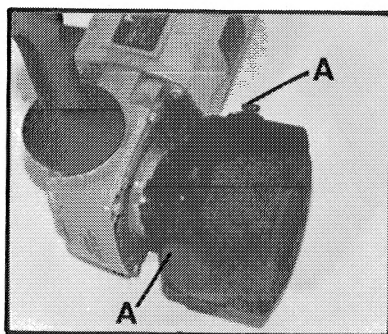

Fig. 9
5. Position the guard so that flying chips or pieces of wheel that might accidentally break will be deflected away from the operator. Note - Fig. 9 shows guard installed for use with the flaring cup wheel.
9. Loosen skirt adjusting screws (A) Fig. 9, and adjust skirt so that it is flush with the bottom of the grinding wheel. Tighten screws securely. NOTE: As grinding wheel wears readjust skirt as required.